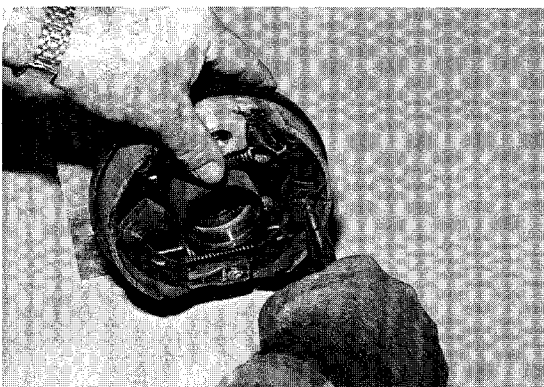

Figure 13-12
3. Remove shoe retaining clip by rotating 90° while holding pin with needle nose plier (Figure 13-12).